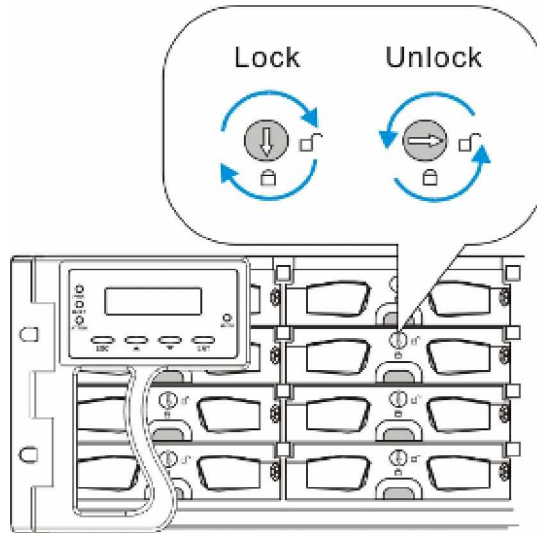

Figure 5-30: Drive Tray Key-lock Rotation
**Step 2. Open the key-lock.** (See *Figure 5-30*) To do this, turn the key-lock on the front of the drive tray until the groove on its face is in a horizontal orientation.